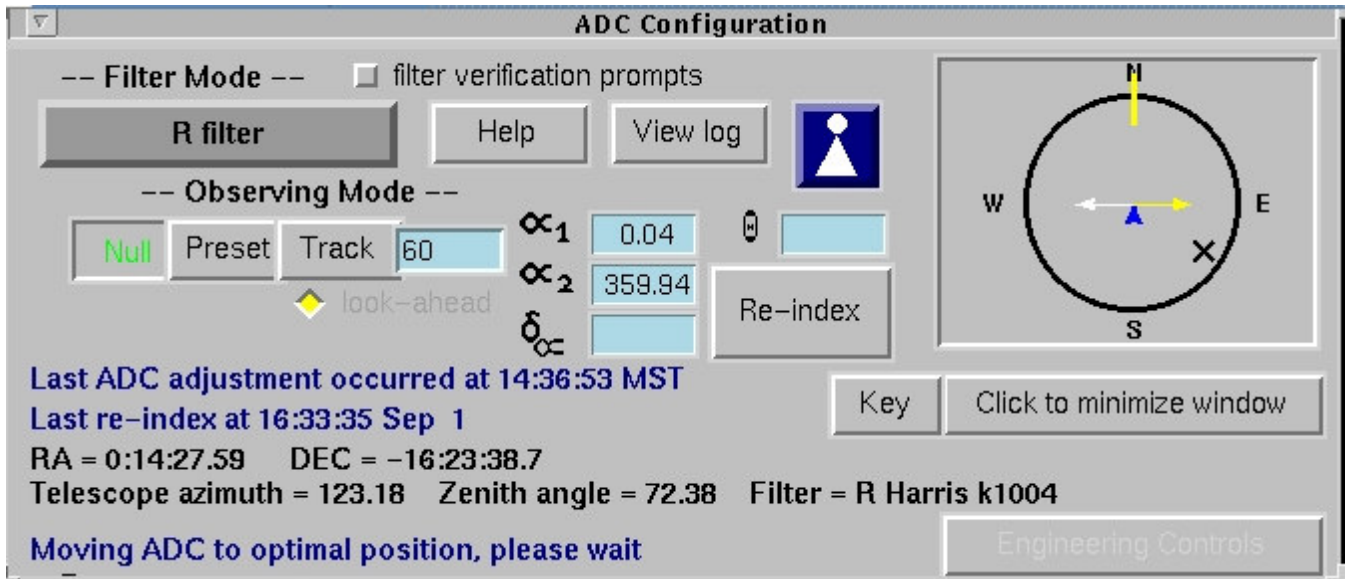

Figure 3.9.1: The ADC GUI.
*The ADC GUI:* Control of the ADC prisms and modes is selected via the ADC GUI (see Figure 3.9.1). Status of the ADC prisms also is displayed in the GUI window. The primary user parameters in the GUI that concern the observer are the ADC Mode (Null, Track, Preset) and ADC Filter Mode (U, B, V, R, I).
When you change the filter you are using with the ADC in use you will be prompted to confirm that you want to change the operating mode of the ADC. There is no beep, or other sound warning that the system is waiting for your confirmation. There is a pop-up window that asks you to pick the appropriate mode. If you would rather have the system automatically decide which is the correct mode, you can unclick the selection button in the GUI (see figure 3.9.1). The default mode for each